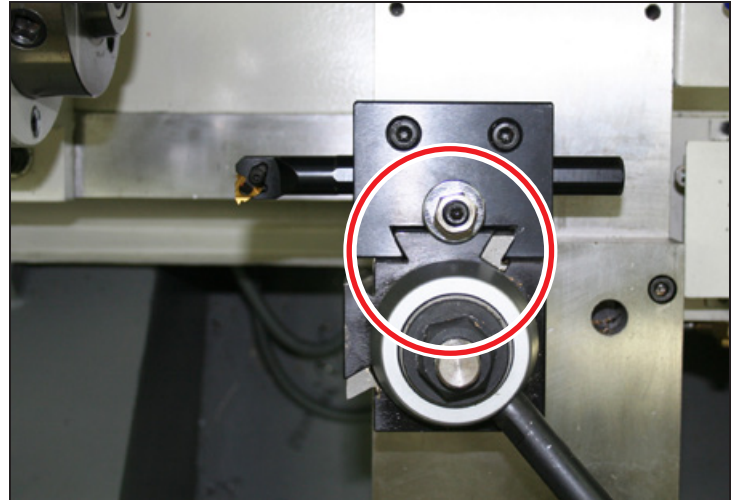

Figure 13
2. Move Tool Post lever to the unlocked position and slide Boring Bar Holder onto the QCTP dove tail (see **Figure 13**); swing Tool Post lever down to locked position.